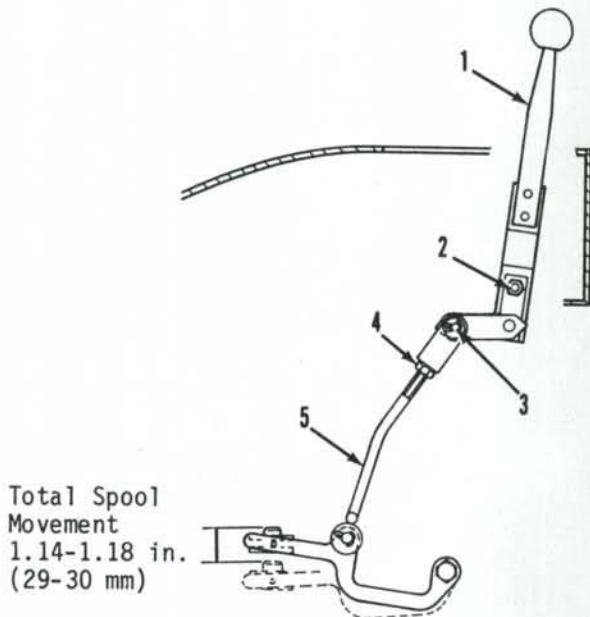

Fig. 146—Pto control linkage used on models not equipped with cab.
125. To adjust the pto linkage on models without cab, refer to Fig. 146 and move control lever (1) forward and rearward to check total control spool movement. Total spool movement should be 1.14-1.18 inches (29-30 mm). If not, remove pin (3), loosen locknut (4) and adjust clevis on link (5) to obtain correct total spool movement. Install pin and tighten locknut. Make certain control lever has a small amount of clearance between lever and end of slot in console. If necessary, loosen clamp bolt (2) and while holding linkage in position move lever to adjust. Then, tighten clamp bolt.